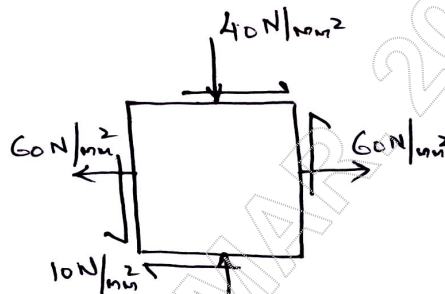

Fig.Q3(a)
- 3 a. The state of stress at a point in a strained material is shown in Fig.Q3(a). Determine :